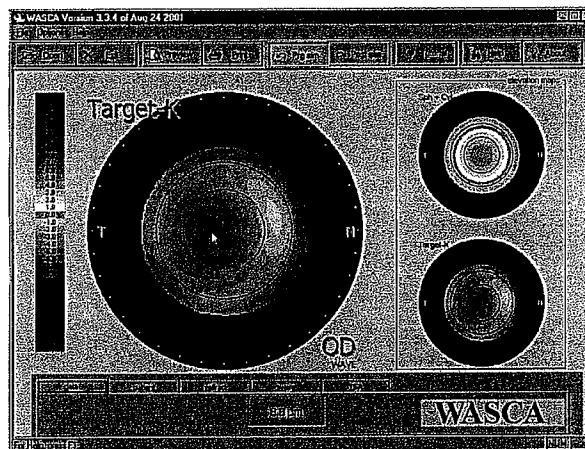

Fig 6: Ablation map in main map
- Determine the position of the deepest ablation. The local ablation depth is shown for each point under the mouse pointer (Fig 6).